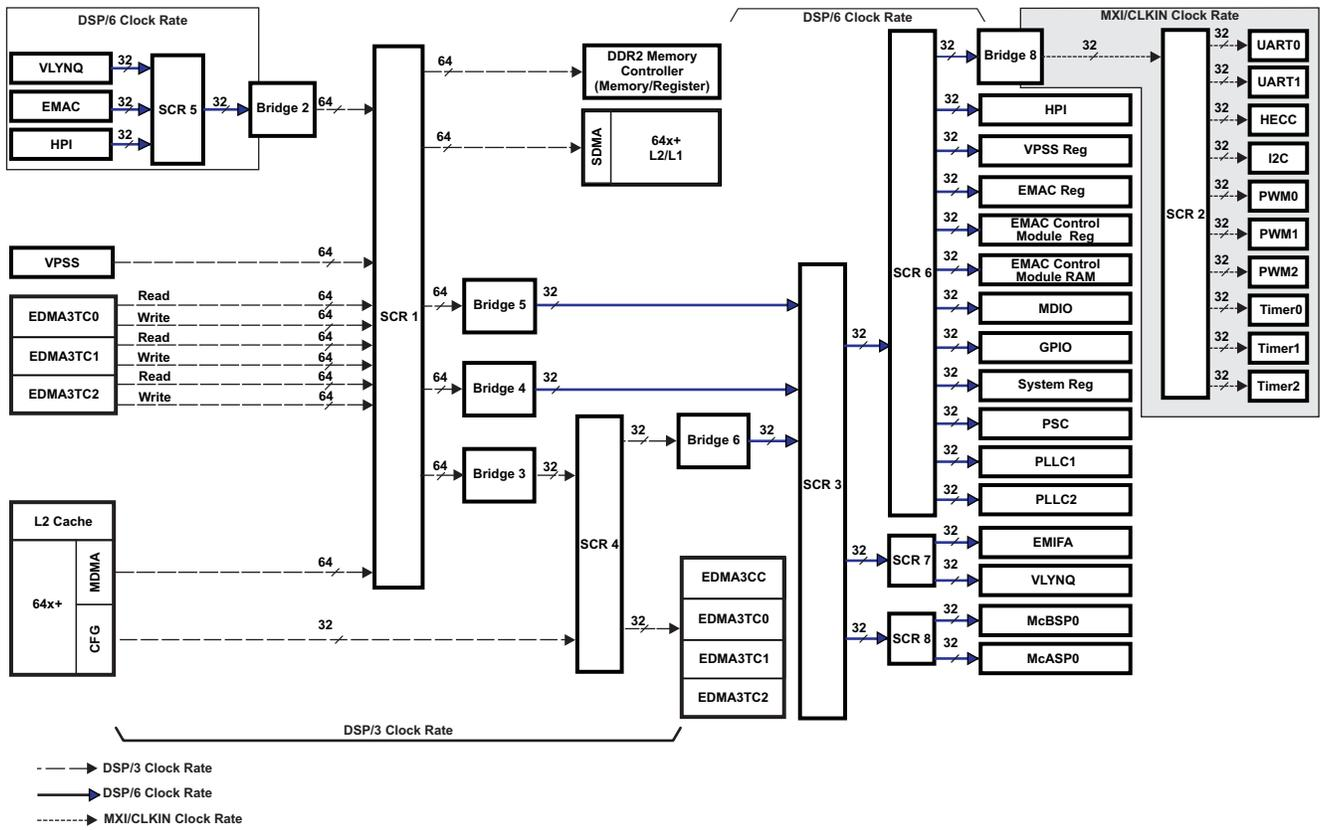

Figure 4-1. System Interconnect Block Diagram
On the DM6435 device, the C64x+ Megamodule, the EDMA3 transfer controllers, and the system peripherals are interconnected through a switch fabric architecture (see Figure 4-1). The switch fabric is composed of multiple switched central resources (SCRs) and multiple bridges. The SCRs establish low-latency connectivity between master peripherals and slave peripherals. Additionally, the SCRs provide priority-based arbitration and facilitate concurrent data movement between master and slave peripherals. Through an SCR, the DSP subsystem can send data to the DDR2 Memory Controller without affecting a data transfer between the EMAC and L2 memory. Bridges are mainly used to perform bus-width conversion as well as bus operating frequency conversion. For example, in Figure 4-1, Bridge 6 performs a frequency conversion between a bus operating at DSP/3 clock rate and a bus operating at DSP/6 clock rate. Furthermore, Bridge 5 performs a bus-width conversion between a 64-bit bus and a 32-bit bus.
Figure 4-1 displays the DM6435 system interconnect block diagram. The following is a list that helps in the interpretation of this diagram:
- A peripheral may have multiple instances shown in Figure 4-1 for the following reason: